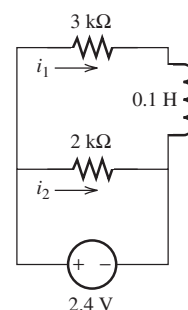

FIGURE P4.34 Circuit with an inductor.
- 4.34 (B) Find i_1 in the circuit as shown in Figure P4.34.